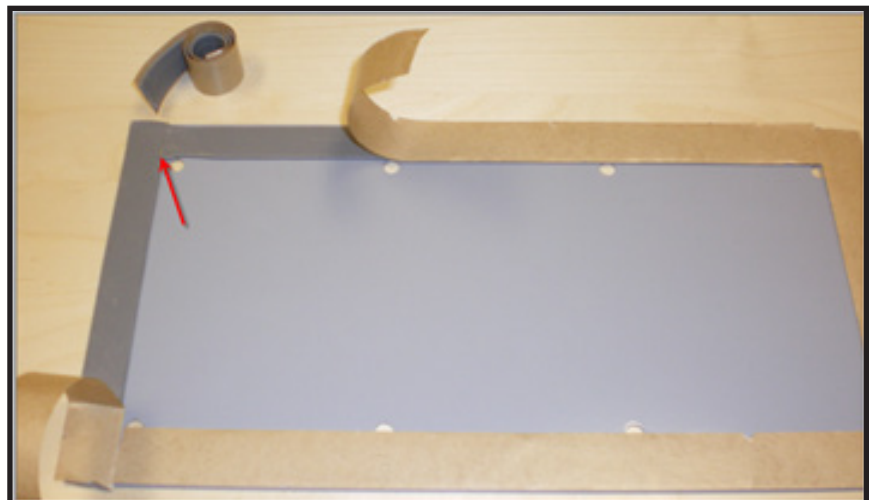

Figure 3
4. Unroll the butyl tape and apply to the perimeter of the new cover plate, on the back surface (see **Figure 3**). Peel back the paper from the tape. Visually inspect to ensure that a complete seal is made around the outer edge, particularly near the top.